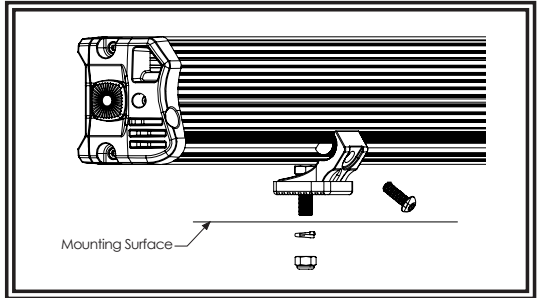

Figure 2
1. Insert a hex head bolt through each rear mount bracket and loosely secure the brackets to the rear of the bar with the button head bolts as shown in FIGURE 2.